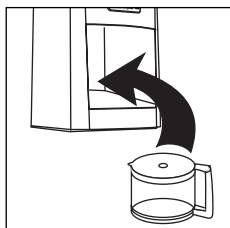

fig. 7
- Close the lid and place the jug on the plate with the lid on (fig. 7).